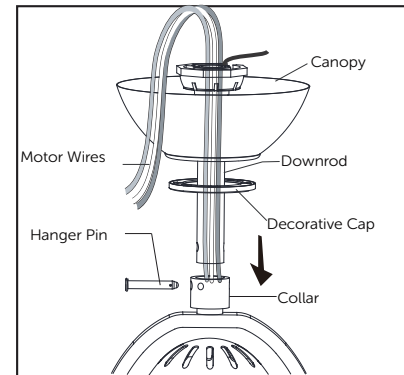

Fig. 5
5. Loosen the collar screws part way. Insert the downrod into the collar. Slide hanger pin through holes of collar and downrod (Fig. 5).